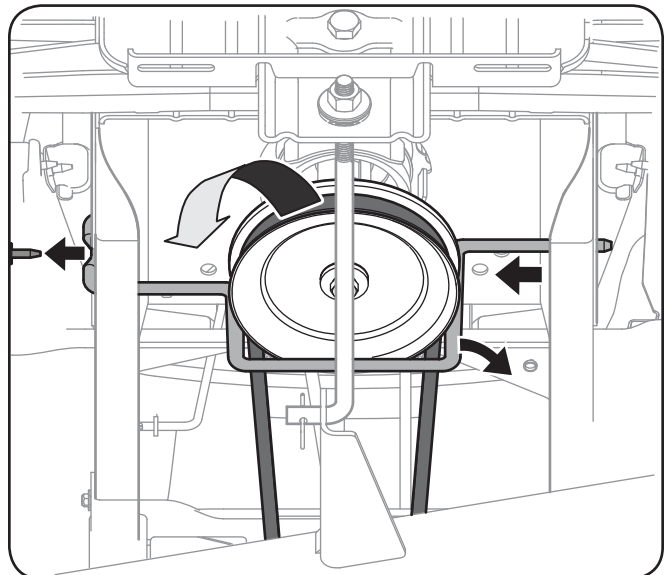

Figure 7-1
5. Remove the hex screw securing the engine pulley keeper rod to the frame. See Figure 7-1.